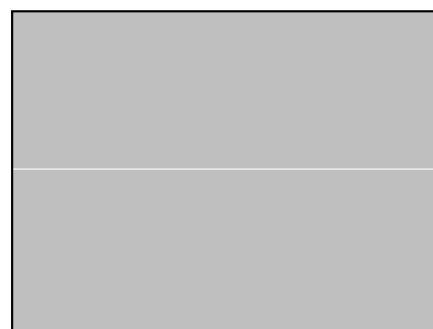

Fig.2-2
2. Press "0" key of the 10 numeric channel keypad to get a horizontal single line screen. (Fig. 2-2)